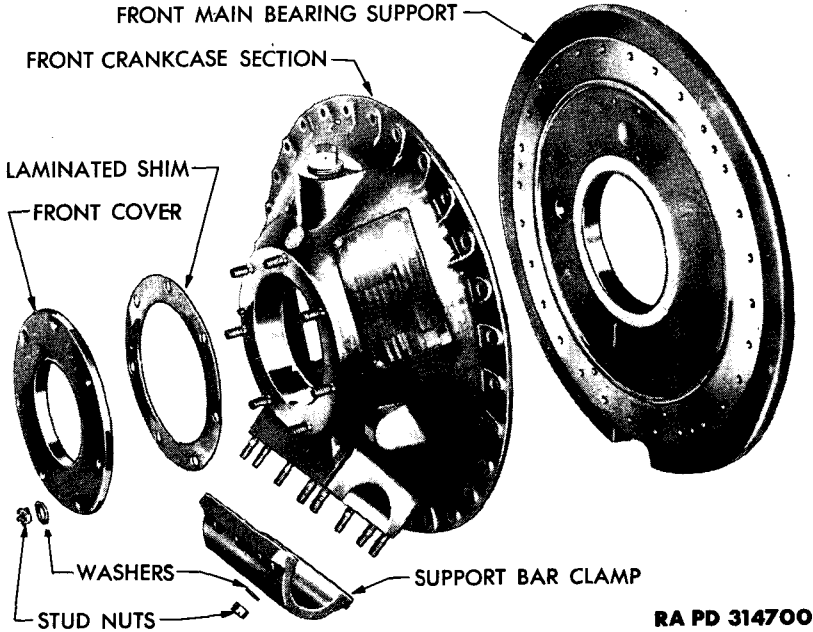
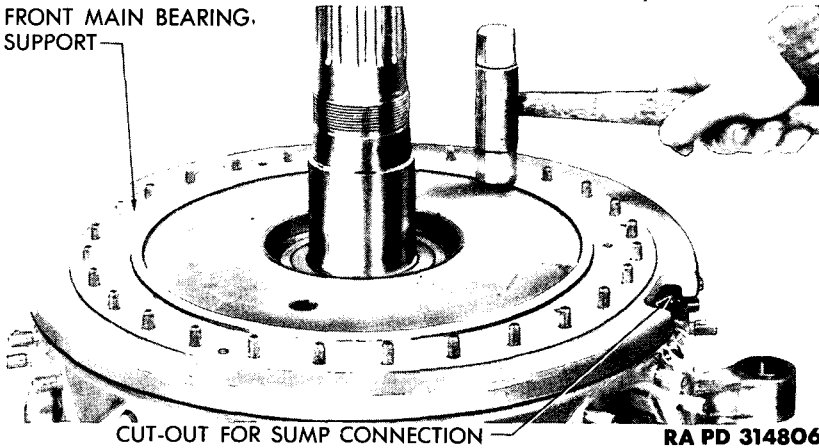

Figure 222 – Front Main Bearing Support, Front Crankcase Section, and Cover – Disassembled
Figure 223 – Installing Front Main Bearing Support
i. Install Front Main Bearing Support. Apply a thin coat of sealing compound to matching surface of front main bearing support (fig. 222). Position support over main crankcase section so that sump connection cut-out in support matches sump connection cut-out in main section (fig. 223). Lower support over main section studs. Tap support evenly all around with soft hammer until it seats positively against main crankcase section.
k. Install Crankcase Front Section. Apply a thin coat of sealing compound to matching flange of front crankcase section (fig. 222). Position front crankcase section over main crankcase section by pointing breather connection in front section directly towards No. 1 cyl-